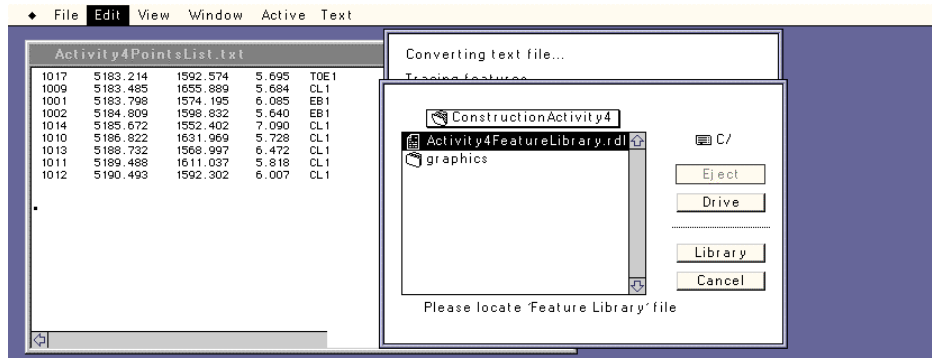

Figure 10: Selecting the Correct Feature Library
- Highlight *Activity4Library.rdl* as the feature library file as shown in Figure 10